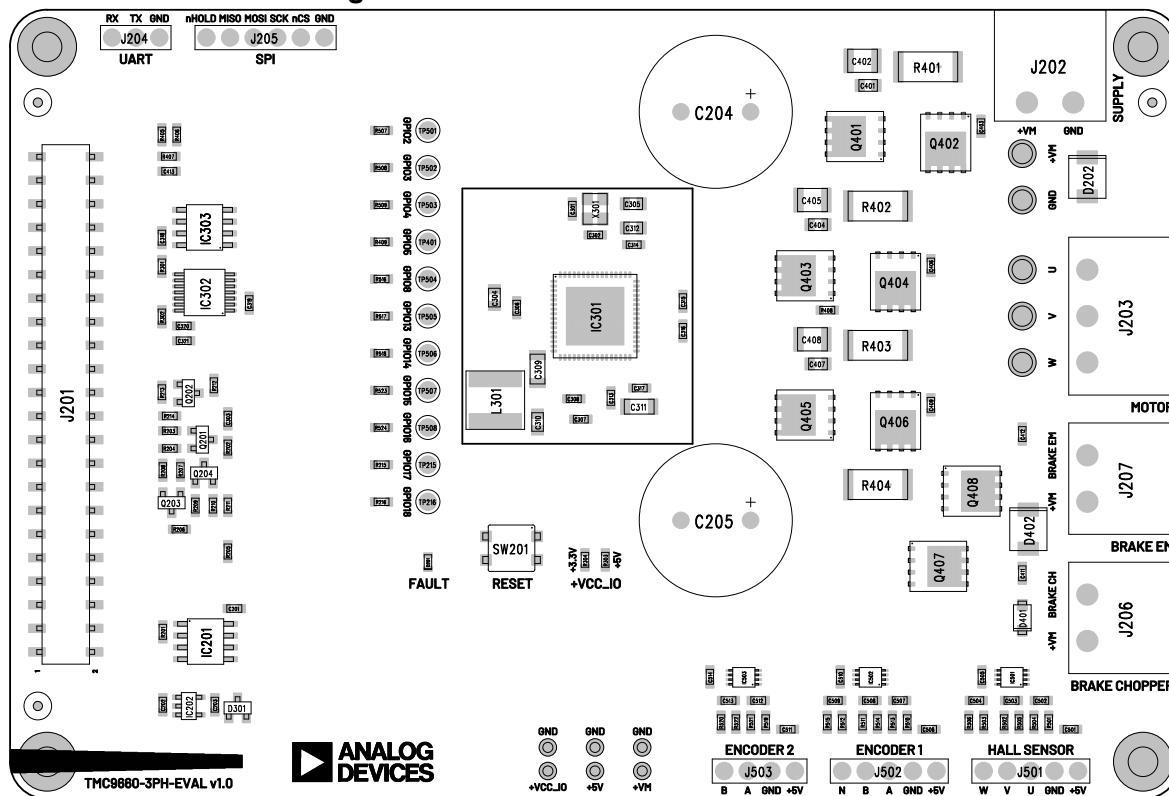

Figure 5. TMC9660-3PH-EVAL Component Placement and Silkscreen
2. Plug the selected motor to the Connector J203, labeled as *MOTOR* on the board's silkscreen (see Figure 5). Observe the correct order of the U, V, and W motor phases.
3. Plug the selected position feedback mechanism to the pin header J501, J502, or J503, labeled as *HALL SENSOR*, *ENCODER 1*, and *ENCODER 2*, respectively, on the board's silkscreen (see Figure 5). At least one position feedback mechanism is required, however, the three of them can be plugged and used simultaneously. However, note that of the ABN Encoders only ABN Encoder 1 can be used for motor commutation, while either of ABN Encoder 1 or Encoder 2 can be used for velocity or position feedback.
5. Plug the power supply cable to the Connector J202, labeled as *SUPPLY* on the board's silkscreen (see Figure 5). Make sure the power supply is off before connecting it to the board and that the polarity is correct.
The TMC9660-3PH-EVAL has four power connectors and five pin headers. These can be found in the component placement drawing in Figure 5 and are described in detail in the following table.
In addition to the connectors shown in Table 1, some unpopulated THM test points are available in the TMC9660-3PH-EVAL. See the component placement drawing in Figure 5. The additional connectors are described in the following table.
The TMC9660-3PH-EVAL includes a push button (SW201) labeled as *RESET* on the board's silkscreen, as seen in the component placement drawing in Figure 5. This button is tied to the RESETN pin of the TMC9660 and includes a $12\text{k}\Omega$ pull-up resistor referenced to the 5.8V line, that is, the output of the TMC9660 internal buck regulator.